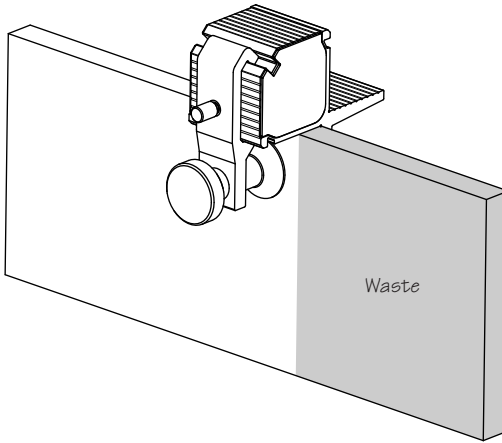

Figure 2: Right-angle saw guide in place and ready for cutting.
2. Place the guide on the end of the board such that the **waste area** is exposed (see **Figure 2**). Leave the clamp loose for the moment.